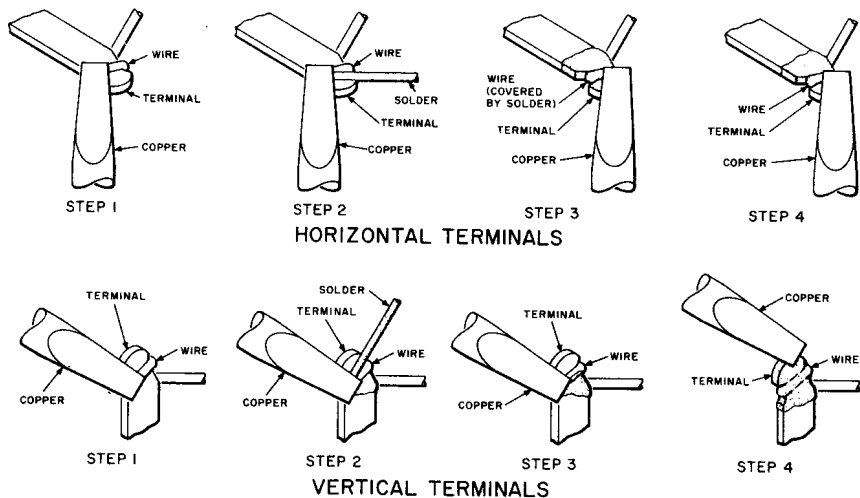

FIGURE 5. Soldering Wire to Notched Terminals
- 7.01 Apply rosin core solder to the tip of a hot soldering iron momentarily, leaving a small amount of molten solder on the tip. Apply the tip to the terminal and wire as shown in Figure 5, Step 1. As the terminal and wire attain proper soldering temperature, the molten solder will spread over the surfaces of the terminal and wire. As this occurs, a small amount of additional solder is immediately applied to the heated joint as shown in Figure 5, Step 2, so the molten rosin will protect the joint as the soldering process is completed.
- 7.02 When the solder has melted and flows freely, bring the copper tip down over the terminal with a forward movement so the solder flows over the wire, completely covering it as shown in Figure 5, Step 3. Draw the copper tip off the terminal, carrying with it any surplus solder to leave a clean, smooth joint as shown in Figure 5, Step 4.